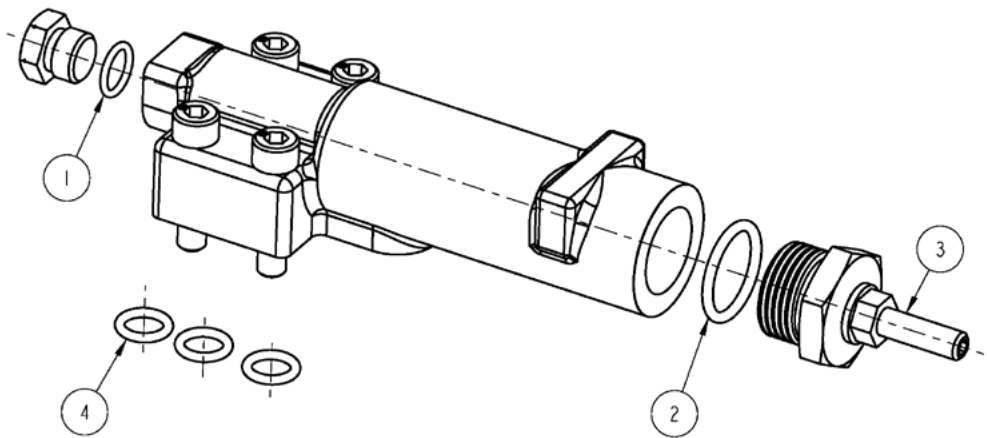

Figure 25
1. Remove the 4 screws that fix the compensator housing to the end cap (Figure 25, item ②).
2. Remove the compensator and take out the three O-rings (Figure 25, item ③).
9. Install three O - rings (Figure 25, item ③).
10. Use four screws (Figure 25, item ②) to fasten the compensator housing onto the end cap and tighten them with a torque of 31 - 37 Nm. When tightening, do it in a crisscross pattern and re-tighten the first screw.